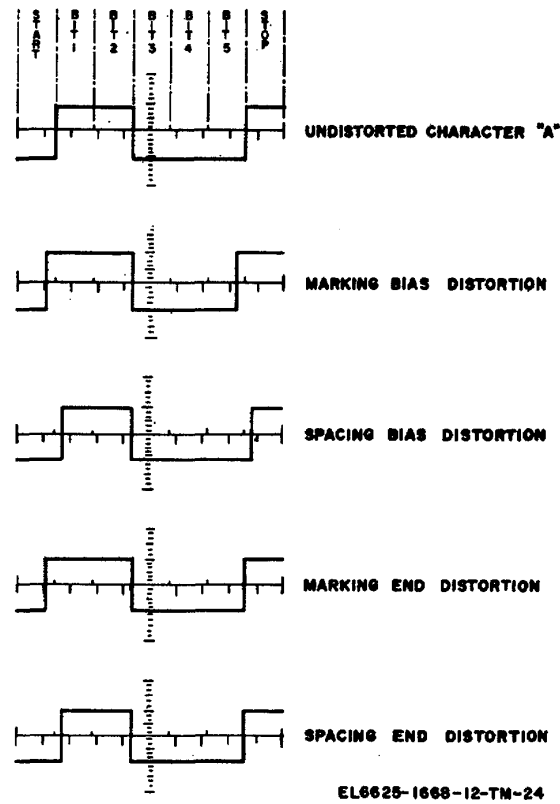

Figure 4-1. Distortion oscilloscope display.
c. Set the oscilloscope VERTICAL VOLTS (MA)/CM switch to 10.
e. Set the generator DISTORTION SELECT switch to BIAS, S and note that-	Figure 4-1
(1) Nixie display indicates $25 \pm 2$ counts.
(2) Analyzer space/start lamp illuminates.
(3) Oscilloscope displays spacing bias.
f. Set the DISTORTION SELECT switch to BIAS, M and note that-	Figure 4-1
(2) MARK/FINISH lamp is illuminated.
(3) Oscilloscope displays marking bias.
g. Set DISTORTION SELECT switch to END S/S, M, and note that-	Figure 4-1
(1) Nixie display indicates $00 \pm 2$ counts.
(2) Oscilloscope displays marking end distortion.
h. Set DISTORTION switch to AVG END M/S, and note that-	Figure 4-1
(3) Oscilloscope displays marking end distortion.
i. Set DISTORTION SELECT switch to END S/S, S and note that-	Figure 4-1
(2) SPACE/START lamp is illuminated.
(3) Oscilloscope displays spacing end distortion.
j. Set DISTORTION switch to PEAK TOTAL, and note that	Figure 4-1
(1) Nixie display indicates $25 \pm 2$ count
(2) Oscilloscope displays spacing end distortion.
k. Set DISTORTION switch to PEAK EARLY, and note that-	Figure 4-1
(1) Nixie display indicates $25 \pm 2$ count.
l. Set DISTORTION switch to PEAK LATE, reset the nixie display and note that-	Figure 4-1